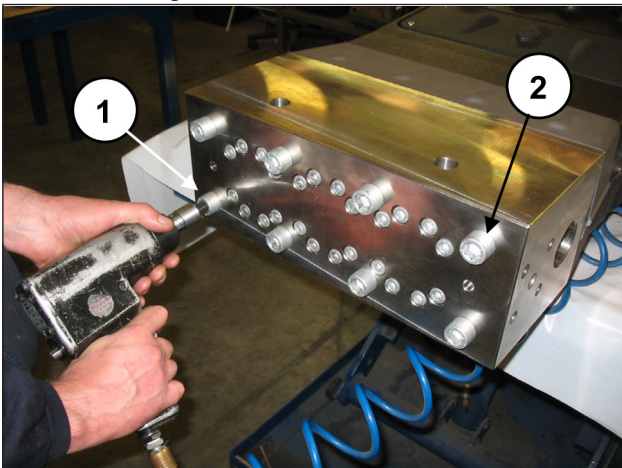
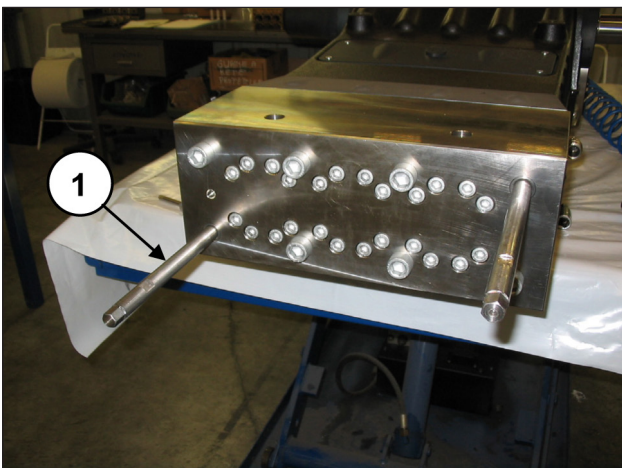

Fig. 107
Fig. 108
Unscrew the two diametrically opposed M16x280 head fixing screws (pos. ① and ②, Fig. 107) and replace them with two screw-slave pins (code 27540200) (pos. ①, Fig. 108), then take out the remaining screws.